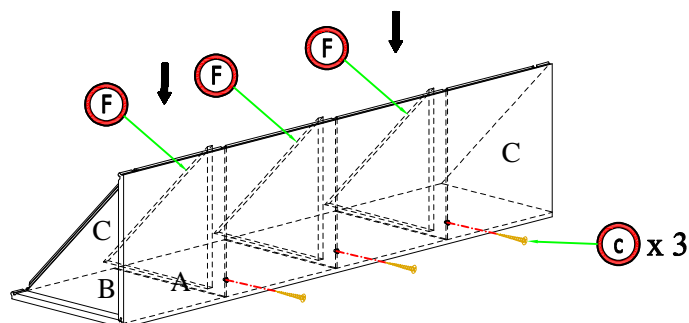

Figure 4
4. Installing the shelves: Insert the shelf (E) into the groove of the back panel (B) and (A) and locking it into side panel (A) by three screws 1" (Figure 4).